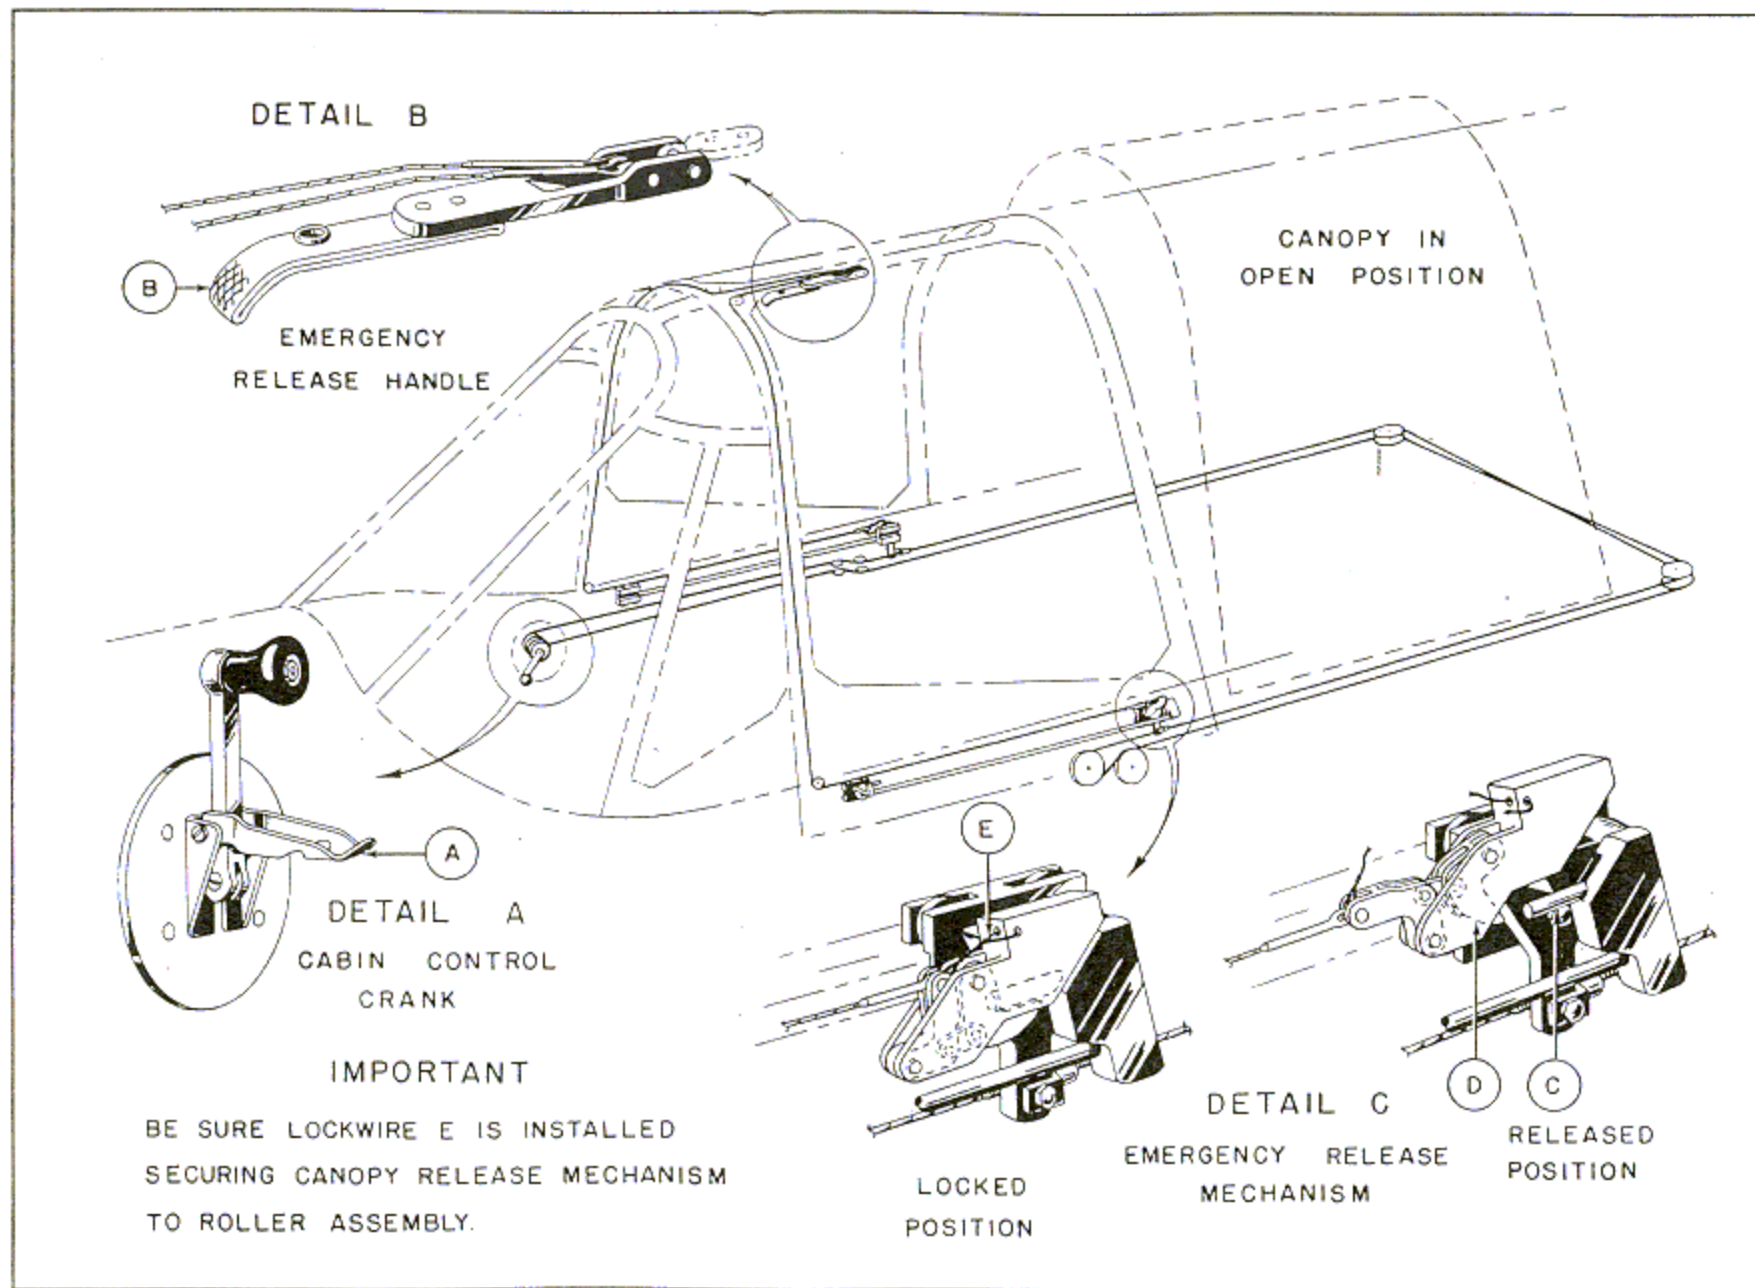

Figure 113—Canopy Controls (AF42-104829 and Subsequent)
2. The canopy for airplanes AF42-104829 and subsequent, consists of two pieces of Plexiglas held in an aluminum alloy frame and does not have an emergency escape panel. The operation of the canopy is the same as for previous model airplanes. (See figure 113.)
(b) REMOVAL OF CANOPY.—The canopy may be removed by pulling the emergency release handle (B) (detail B, figure 113), and lifting the canopy off the airplane. The support and truck assemblies will remain on the track.
9. Install the safety-wire (.032 brass or equivalent) at the release latches as shown in figure 113. The wire must preload each latch in the locked position past the dead-center position.